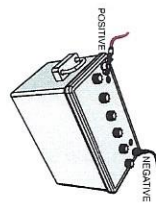

Figure 11. Battery Connections
2. **ALWAYS** be sure the battery cables are properly connected to the battery terminals (Figure 11). The **red** cable is connected to the positive terminal of the battery, and the **black** cable is connected to the negative terminal of the battery.